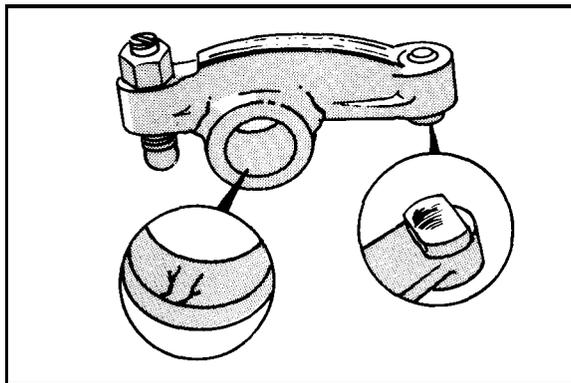

Figure 6-5
2. Inspect rocker levers for cracks and wear in bore and contact surface of valve stem (Figure 6-5).